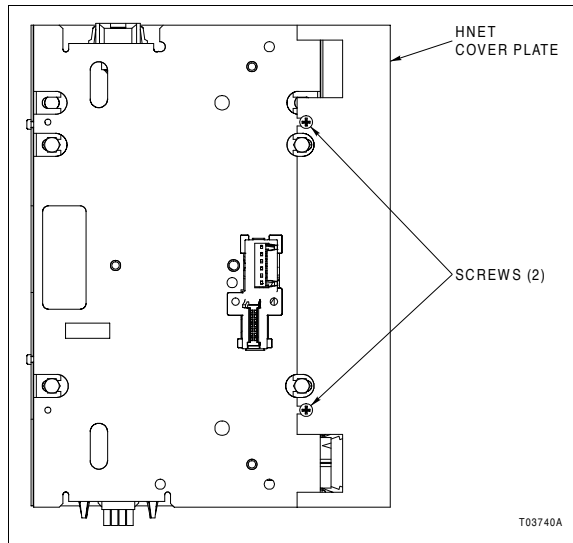

Figure PR2-1. Hnet Cover Plate Removal
- 1. Remove the Hnet cover plate from the MCL111 mounting column (Fig. PR2-1). Remove the two screws that secure the cover plate to the column. The plate will be reinstalled after the Hnet cables and Hnet terminator have been connected.